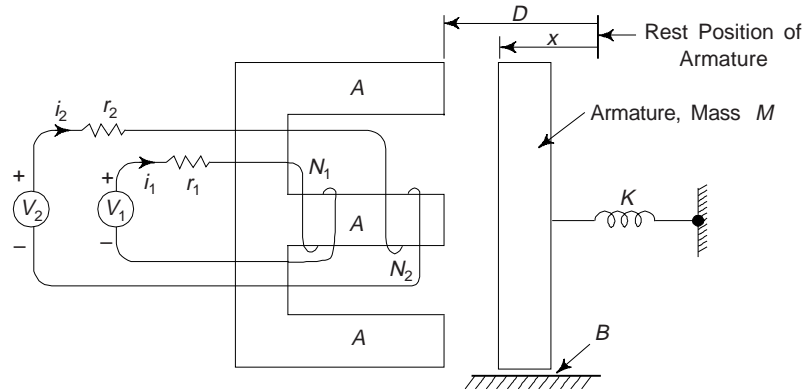

Fig. P4.13
- 4.13 For the electromagnet of Fig. P4.13 write the dynamical equation. Assume the cross-sectional area of each limb of the magnet to be A and the coupling between the two coils to be tight. Iron is to be taken as infinitely permeable.